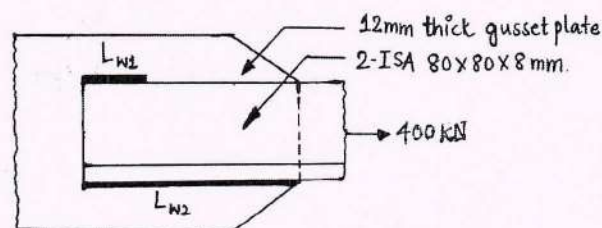

Fig.Q4(a)
- 4 a. A tie member of a truss consists of double angle section, each 80 mm × 80 mm × 8 mm welded on the opposite side of a 12 mm thick gusset plate as shown in Fig.Q4(a). Design a fillet weld for making connection in the workshop. The tensile force in the member is 400 kN.